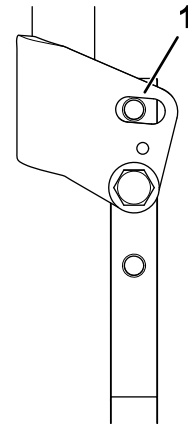

Figure 4
4. Move the motion-control lever forward or rearward to the desired position in the slotted hole (Figure 4).